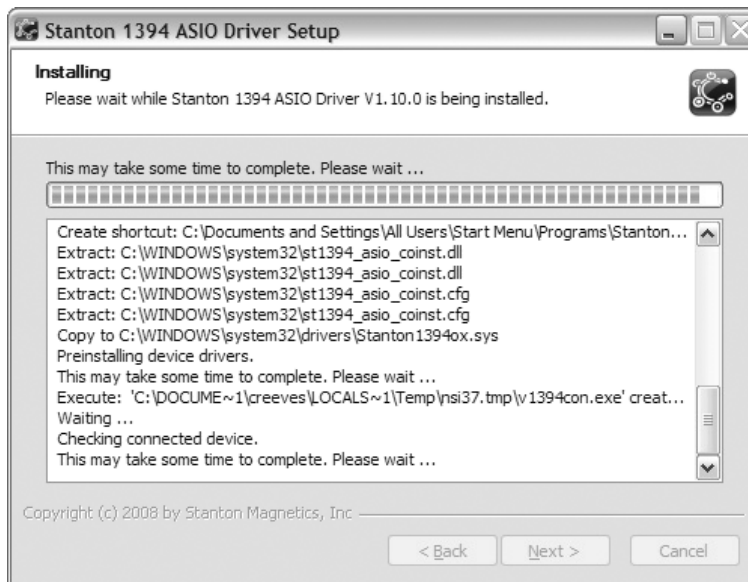

Figure 4.8
8. Wait for a few seconds, normal operation will resume shortly. (Figure 4.8)